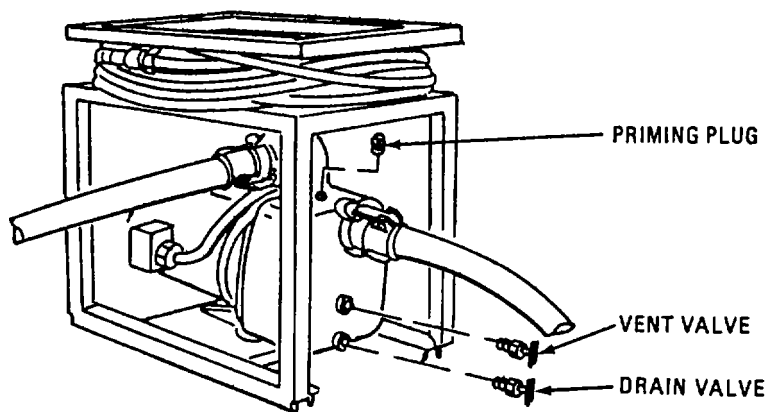

Figure 2-51. Raw Water Pump Valves.
i. Prime Raw Water Pumps. Refer to figure 2-51.
- (1) Verify that raw water strainer is under water. With the unmarked pail, draw some raw water from the water source. Take it to raw water pump No. 1.
- (2) If open, close drain and vent valves on raw water pump No. 1.
- (3) Remove priming plug from top of raw water pump No. 1 using wrench from storage chest. Fill pump housing with raw water. Screw priming plug back into pump. Return wrench to storage chest.